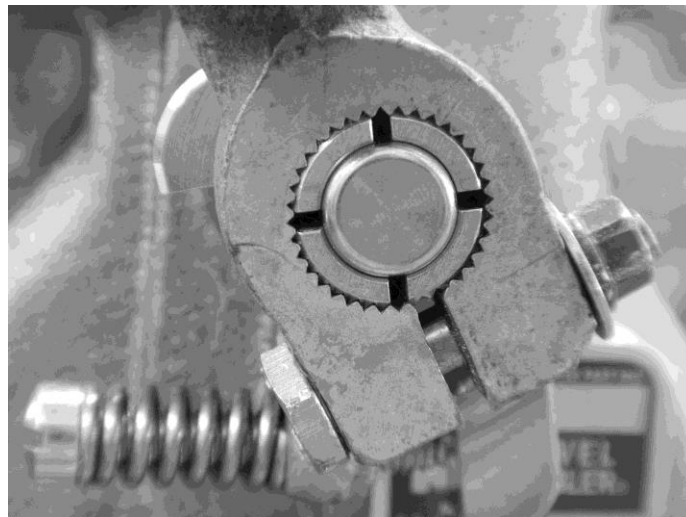

Figure 3-13b: Proper installation of Throttle Arm to the Serrated Shaft
- If not previously performed, drill-through both Throttle Arm holes with a #11 drill bit (.1910"). Install AN3-10A Bolt, NAS1149F0332P Washer, and MS21042-3 Self-Locking Nut as shown in Figure 3-13b. Torque to 20-25 inch/lbs.